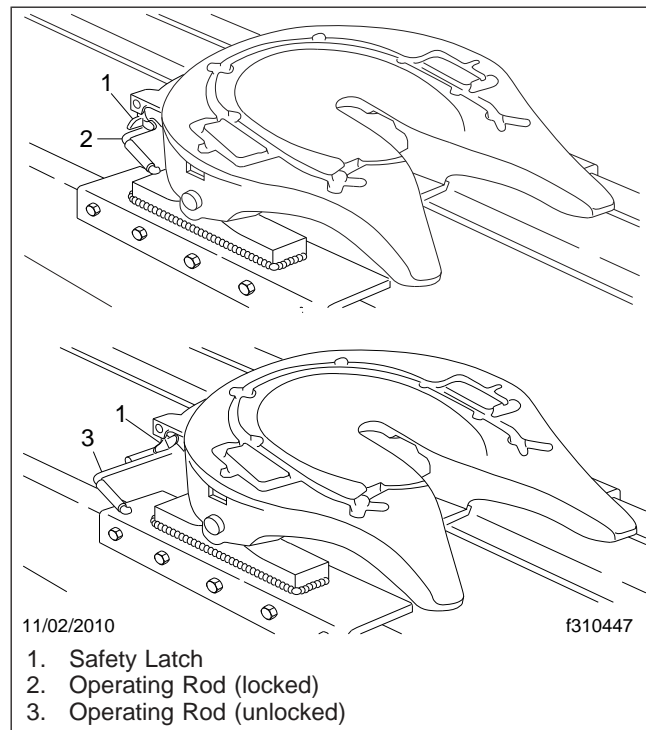

Fig. 10.11, Simplex Kingpin Locking Mechanism, Locking and Unlocking
Placing the operating rod in the lockset position moves the lock away from the jaw. This action unlocks the jaw so that it can be rotated by movement of the kingpin. When the tractor is moved out from under the trailer, the kingpin will rotate the jaw until the jaw is in the unlocked position, allowing the kingpin to move out of the mechanism. With the jaw in the fully open position, the operating rod drops out of the lockset position, and the fifth wheel is ready for coupling. See Fig. 10.11.
6. *If equipped with a manual kingpin lock release:* Release the kingpin lock mechanism by raising the safety latch to the rear and pulling the lock operating rod out and up into the lockset position. See **Fig. 10.11**. The offset of the lock control upper rod should bottom against the plate casting above the hole. If the operating rod cannot be pulled to the lockset position, back the tractor slightly to release the kingpin force against the jaw.
If equipped with an air-operated kingpin lock release: Pull the air-release knob on the dash. From outside the cab, visually check that the operating rod has bottomed out against the plate casting above the hole. See **Fig. 10.11**. If the operating rod isn't in the unlocked position, back the tractor slightly to release the kingpin force against the jaw.